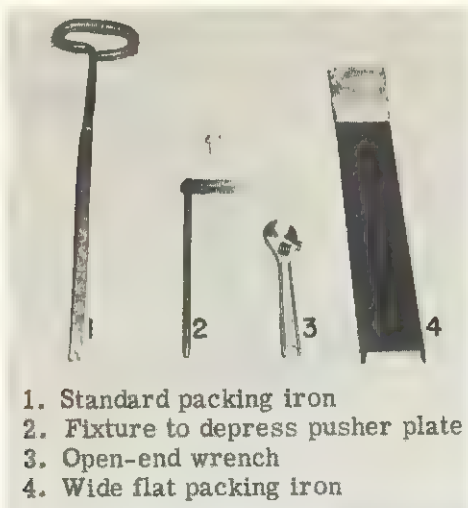

Fig. 14-10
Refer to Fig. 14-10 to 21-10, inclusive.
1. Acquire proper tools for packing the bearing; see Fig. 14-10.